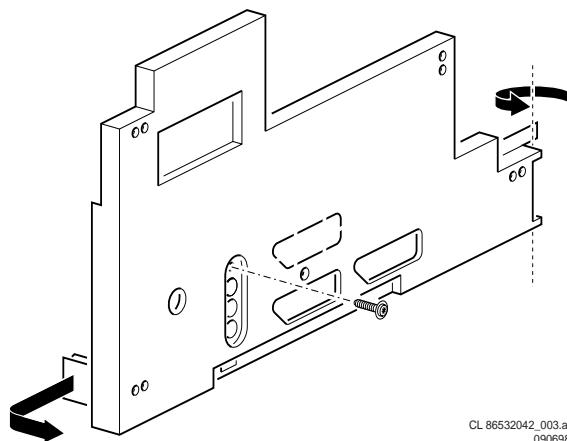

Figure 4-2
1. Remove 1 screw in case of a 2-scart I/O coverplate and 2 screws in case of a 3-scart I/O coverplate (see figure 4.2).